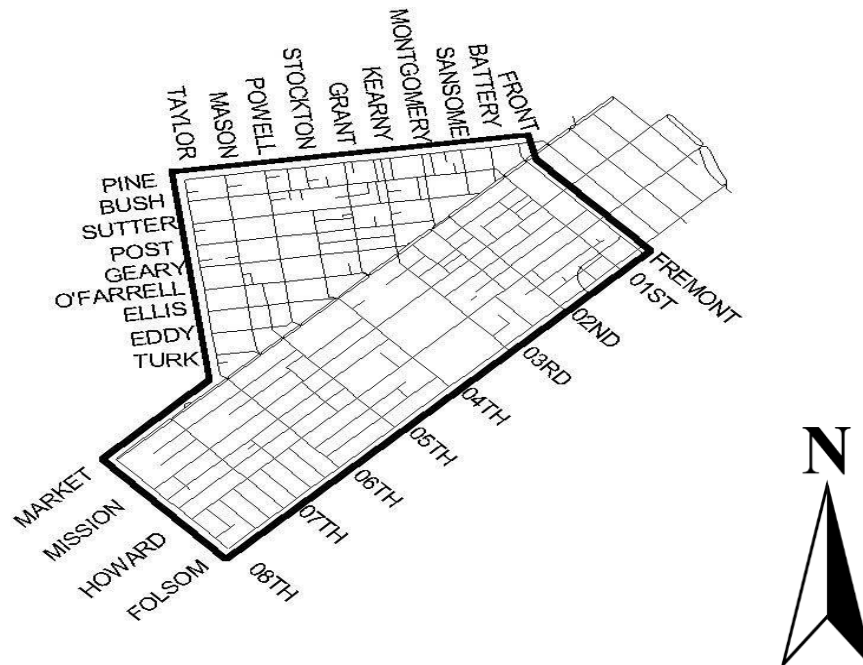

Figure 1: Holiday Restrictions Boundary
- i. **Any Street Within the Area Shown in Figure 1:** This area is bounded by Pine Street, Taylor Street, Market Street, 8th Street, Folsom Street, Fremont Street, and Front Street, inclusive, and includes all streets. Alleys are not included in the Holiday Moratorium restriction unless they meet the criteria of a Business Block in the City (see paragraph ii below). Alleys are defined as streets under 25' wide from curb to curb.
- i. **Conditional Holiday Moratorium Approval.** Applicants may apply for “Conditional Approval” to work on any street that has up to 75% business and is outside the map area in Figure 1 above (or on alleys within the map area). When applying for “Conditional Approval”, the applicant does not have to complete a full “Holiday Moratorium Business Block Survey.” If granted, the applicant may work as long as no valid objection is received at SFMTA. Following any valid objection, Conditional Approval may be revoked and work ceased until the applicant receives a standard Holiday Moratorium waiver.